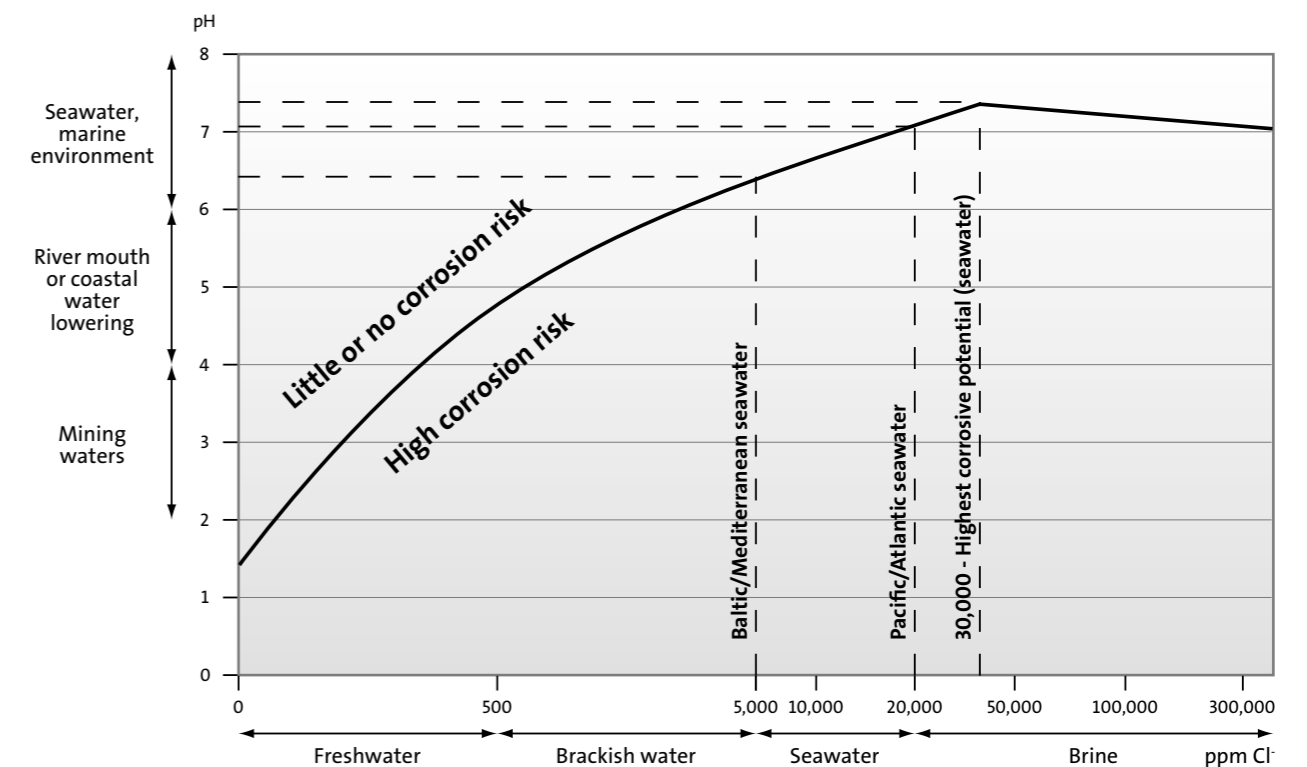

Fig. 10 Corrosion due to chlorides
2. With this chloride equivalent, use fig. 10 to find the minimum pH value acceptable for EN 1.4539 (AISI 904L) stainless steel. If the illustration indicates that there is a high corrosion risk, epoxy-coating of the motor is required.